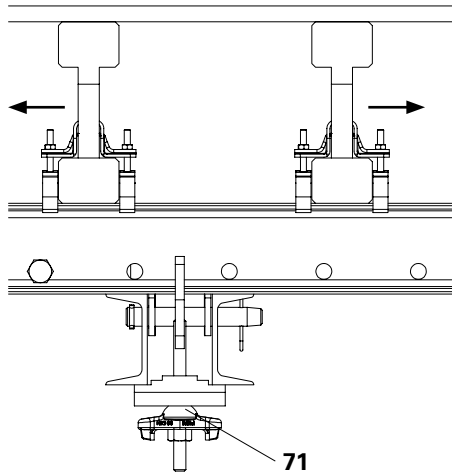

Fig. B3.09
1. Loosen the Waler Fixation U100 – U120 (71) until the panel can be moved.
3. Tighten the Waler Fixation. (Fig. B3.09)